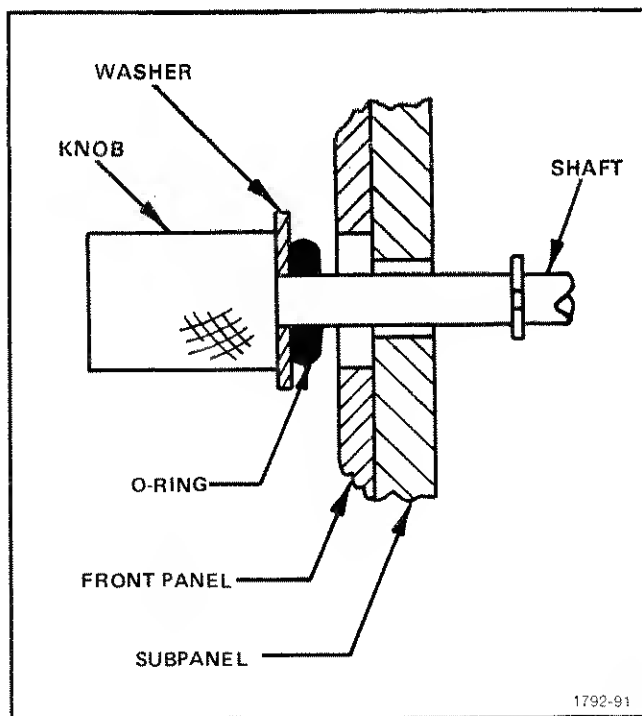

Fig. 5-38. Detail of X-Y Module thumbscrews.
32. Preparation of the Thumbscrews that are used for securing the X-Y Output Module (see Fig. 5-38)
3. Position the O-ring on the shaft as shown in Fig. 5-38.